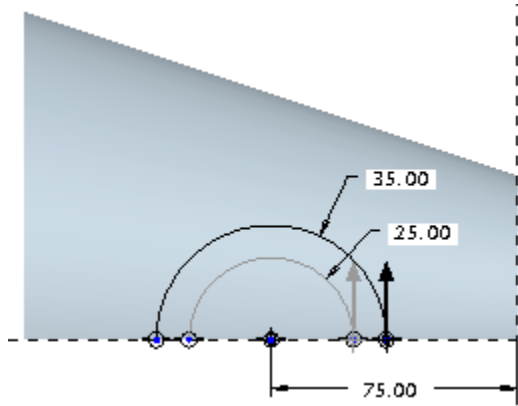

Figure 13-74 Sketch of the second feature
- Create the second feature, which is a blend feature, refer to Figures 13-74 and 13-75.
9. Sketch the first arc of radius 25, and then after toggling the sketch draw the second arc as shown in Figure 13-74.